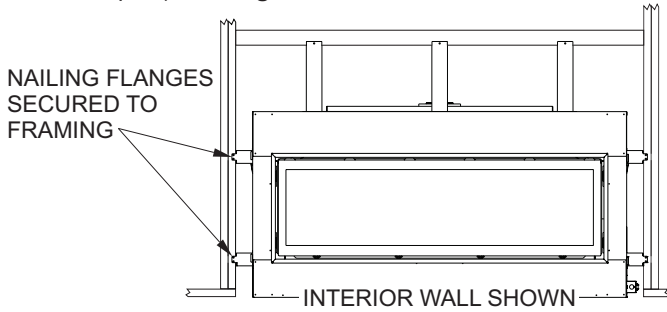

Figure 23
- Secure fireplace to framing with nailing flanges. Set the depth to suit facing material (flush, 1/2 inch, or 3/4 inch set back depths). See Figures 23 and 24.